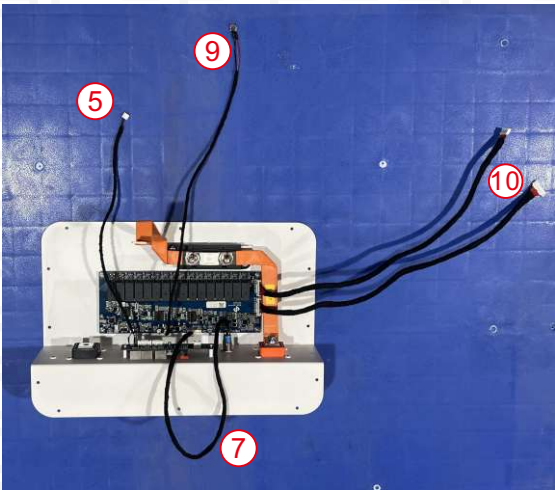

Figure 31
Step 4: Insert the corresponding cable to balance board as shown in figure 31.